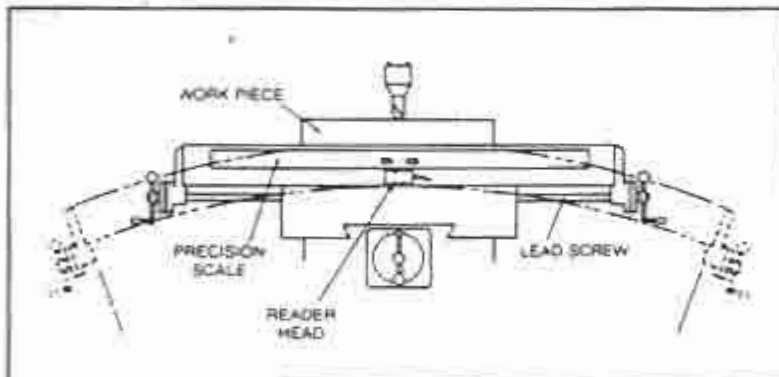

Figure 16. Exaggerated Abbe' Error Curve of Table Travel on a Mill.
- E. Abbe' error - deflections in the machine tool structure, caused by gravity, particularly when a heavy workpiece is placed on a machine with overhanging table or ways (see Figure 16).